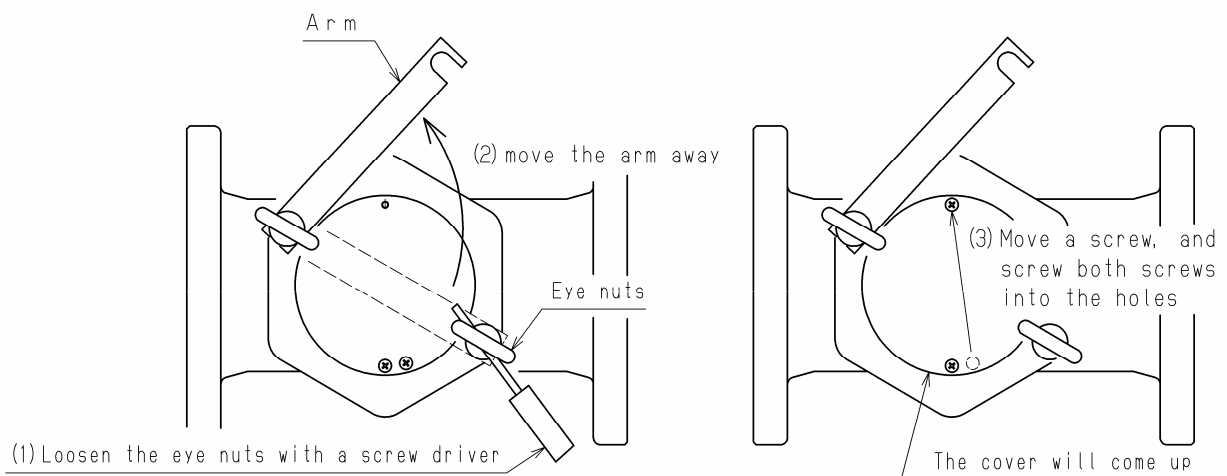

Fig. 8 Removal of covers for Models SU-50S (Above diagram)
- (1) Loosen eye nuts ⑥ with a screw driver.
- (2) Move arm ③ away from cover ② so that it does not touch it. (See Fig.8) In case of 150A, move both arms away.
- (3) Remove cover ②. If you cannot remove the cover, move one of the screws ⑪ on the cover to the other side, and screw in the two screws evenly until the cover comes up. (See Fig. 8) Return the screws to their original positions after removing the cover
- (4) Remove screen ④ from the body ①, and clean with compressed air and cleaning agents.
- (6) Upon assembly of Models SU-50S, confirm that the plain washers ⑫ and spring washers ⑬ have been fit onto the arm. (See Fig. 8.)